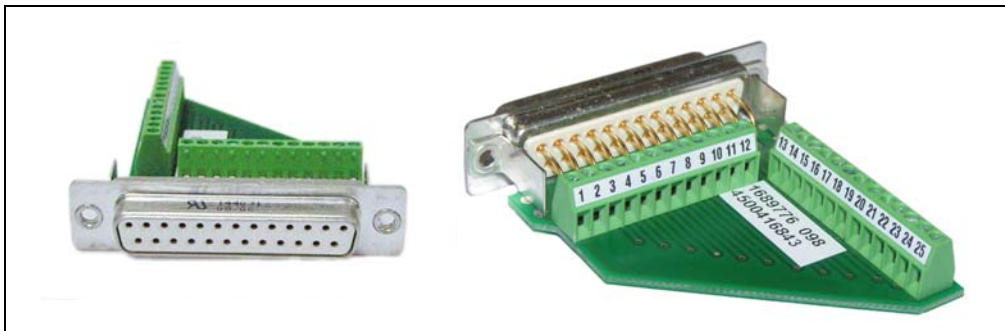
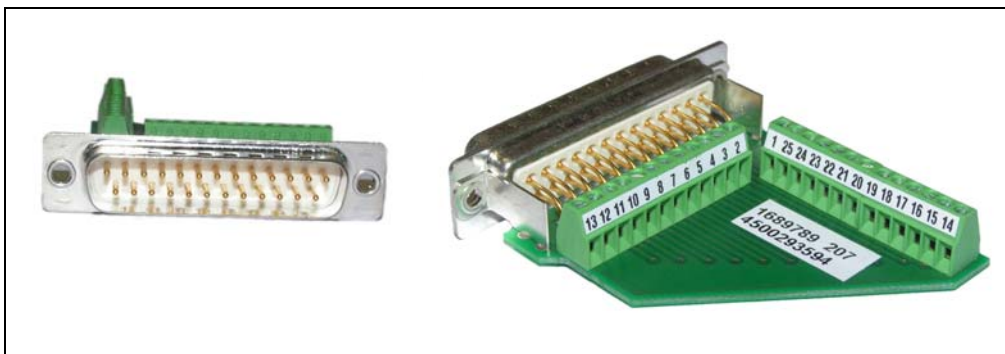

Figure C-9. TTL Breakout Board
Figure C-10. Relay Breakout Board
4. Insert the wires into the connectors on the breakout board in the positions required for the installation. Refer to Figure C-9 for the TTL board and Figure C-10 for the relay board. If you are connecting a 25-conductor cable to the board, you can connect wires to all of the positions, if desired.